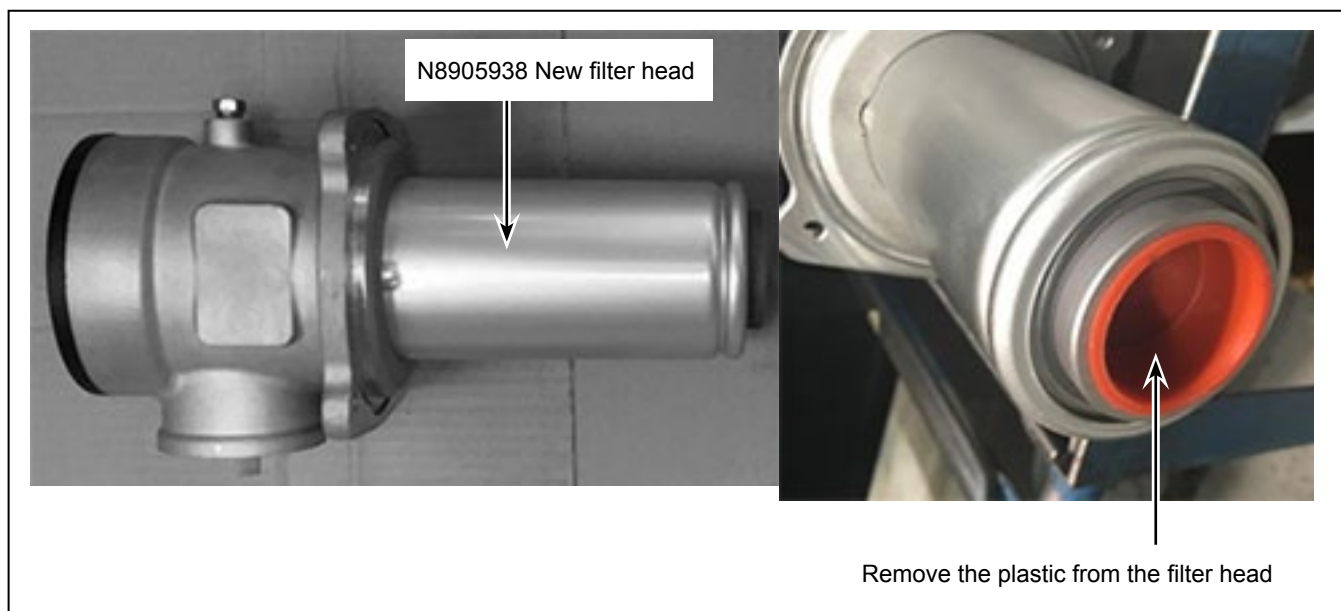

Figure 5 - Preparation of the Filter Head
- 1.25. Remove the plastic cap at the end of the new filter head N8905938. See Figure 5.